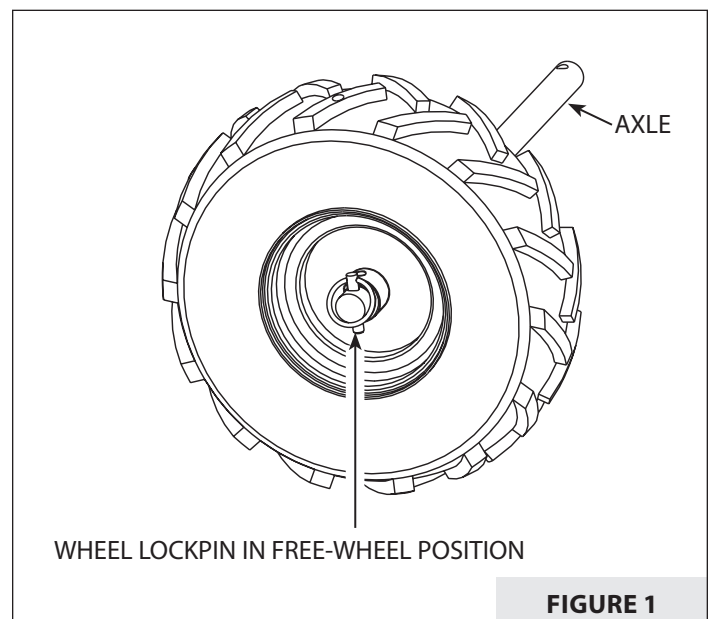

FIGURE 1
- a. Attach the loose wheels, in the box, onto the unit with the wheel lockpins in the *free-wheel position*. Slide the wheel all the way onto the axle and insert a (I) lockpin through the axle hole only. **SEE FIGURE 1.**